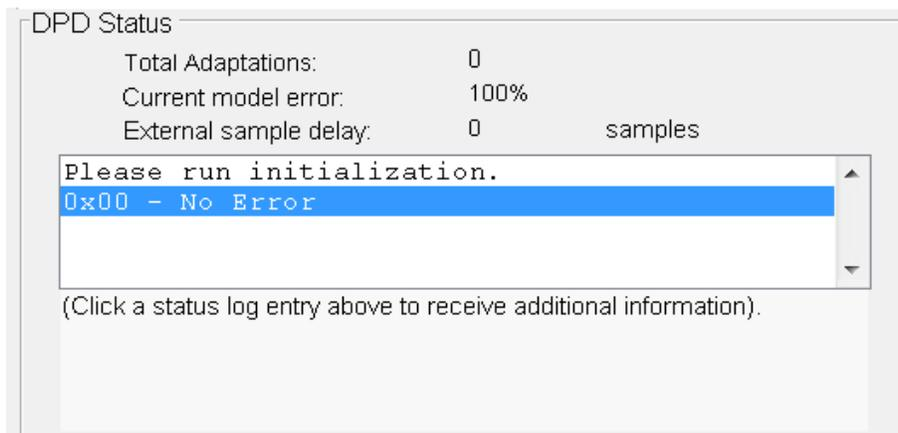

Figure 243. **DPD Status** Window and Status Codes
**Total Adaptations** (see Figure 243) shows the number of successful DPD adaptations that have occurred since the last DPD initialization calibration (**Reset PA Cal**). If an error occurs during a DPD iteration, the total number of adaptations does not count up. For an erroneous adaptation, an error status appears and the DPD adaptation is not applied to the actuator.
**Current model error** (see Figure 243) is a measure of how close the current PA model is to the actual PA. This error is calculated before the DPD applies the newly learned coefficients to predict the PA output from the current input samples for a short instance of time to calculate this error. A threshold for this model error can be set in the **DPD Configuration** window. If the error exceeds this threshold, DPD adaptation does not occur, and the DPD returns an ERROR 9 (MODEL\_ERROR\_TOO\_HIGH).